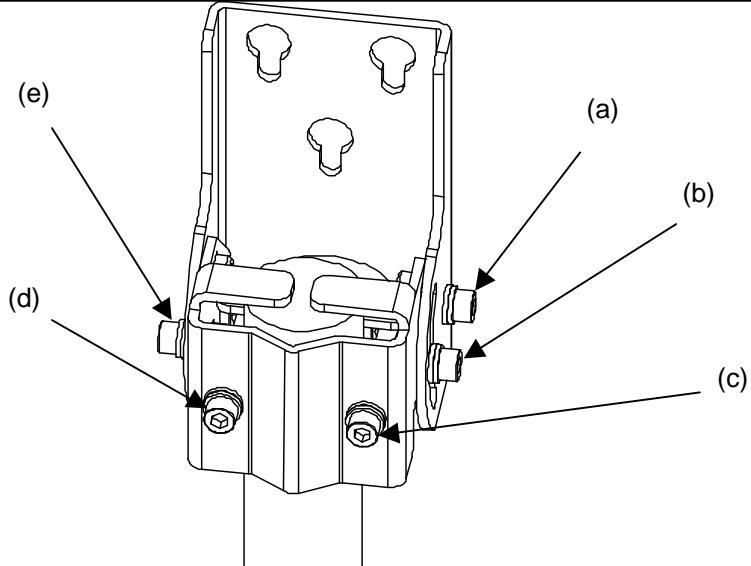

Figure 5-3 Installing the AP-RFU Mounting Bracket on the Pole
- (1) As shown in Figure 5-3, loosen the bolts (a), (b), and (c) and install the AP-RFU mounting bracket on the pole. Next, tighten the bolts (a), (b), and (c). (Recommended tightening torque: 8.5 N·m)